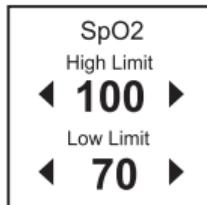
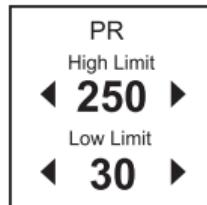

Fig.4-4
Fig.4-5
4.1.2 Tap "**Indication Limit Setting**" you can set the indication limits of SpO₂ (Fig.4-4) and PR (Fig.4-5).